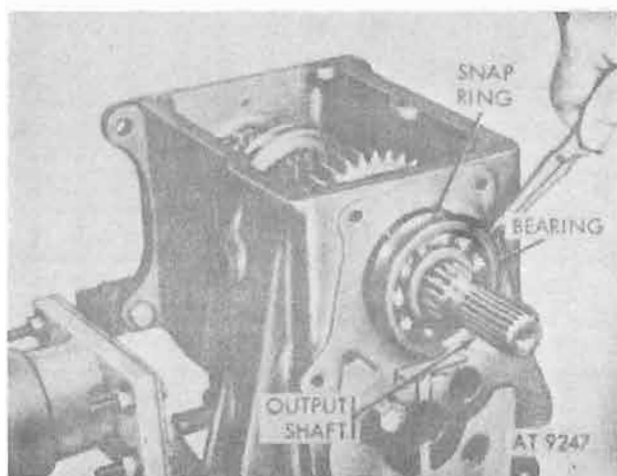

Figure 8-114. Installing output shaft rear bearing and snapring.
h. Position output shaft rear bearing on output shaft, and install snapping to bearing (fig. 8-114).